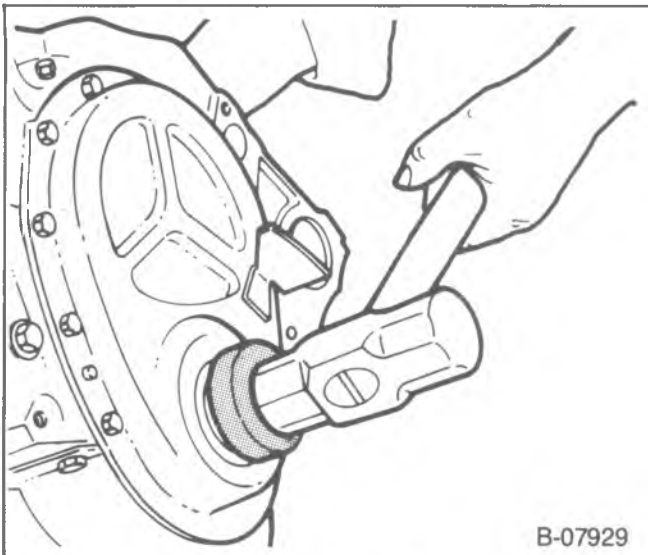

Figure 17—Installing the Front Crankshaft Oil Seal
Install or Connect (Figures 17 and 18)
2. Front crankshaft seal. Use J-35468 (figure 17). The open end of the seal faces inside the engine. Coat the seal lips with engine oil.